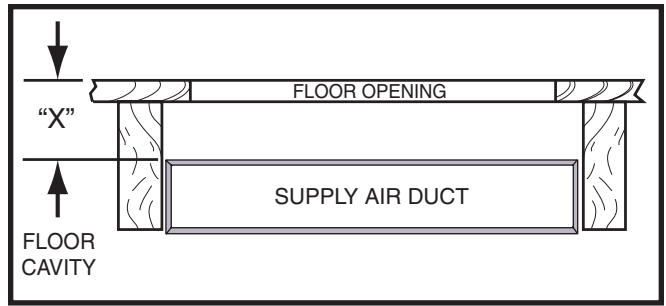

Figure 9. Floor Cavity
- Measure from the top of the floor down to the top of the supply air duct to obtain the depth of the floor cavity. **NOTE:** The depth of the floor cavity shown as "X" in Figure 9 (page 8) will determine the correct duct connector.